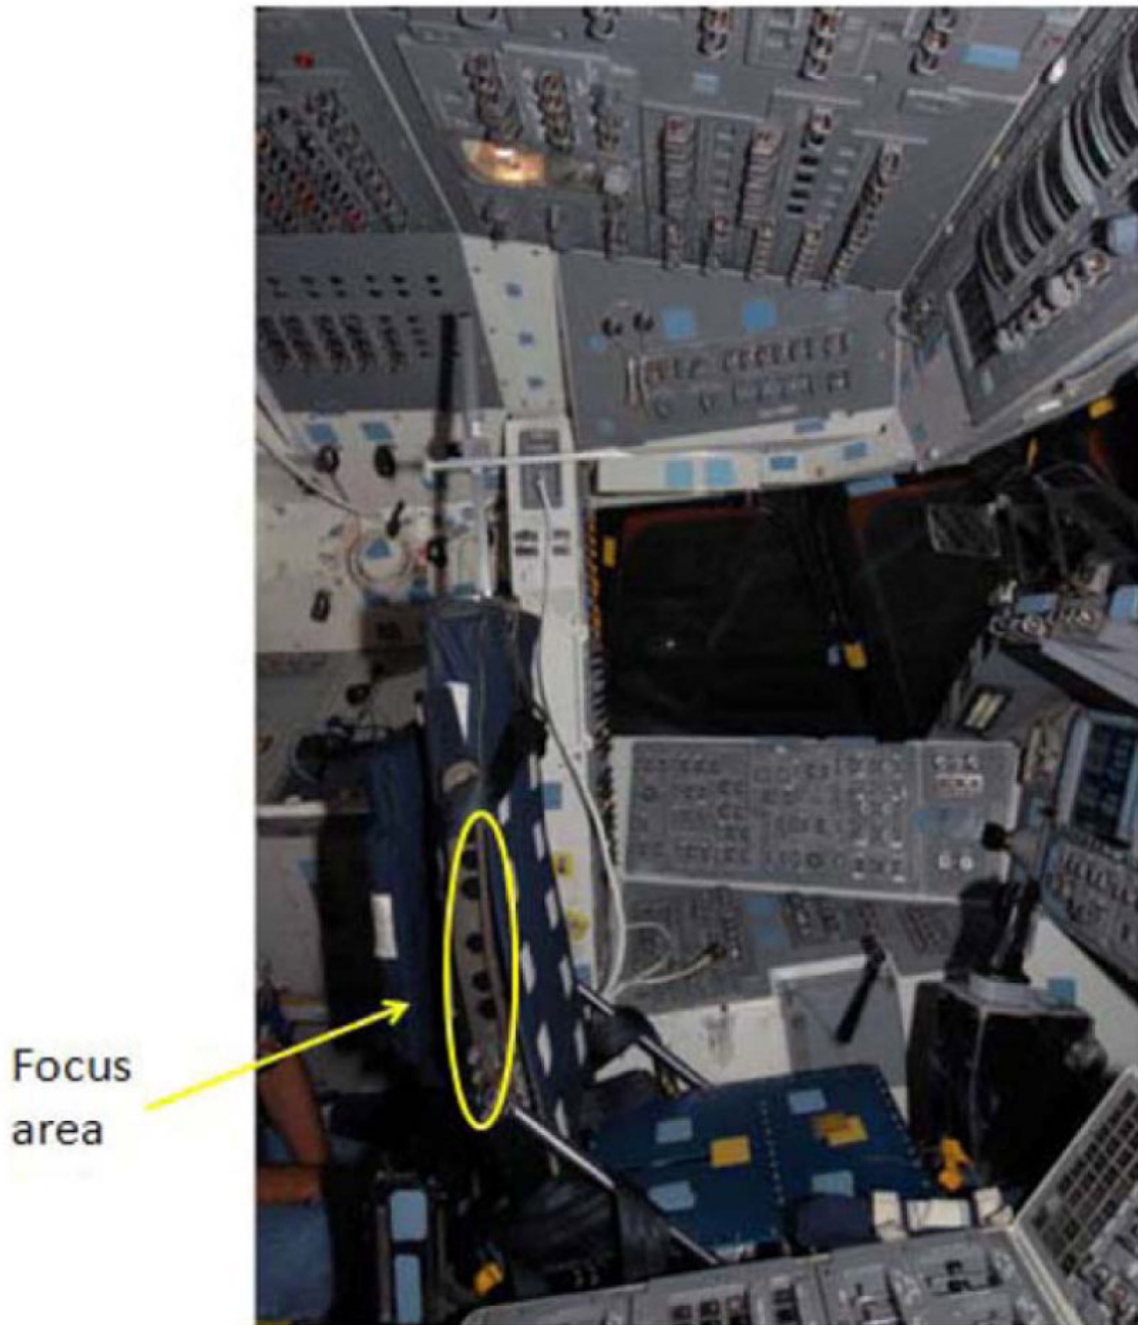

Figure 7. Correct D2Xs Camera Image Capture Area.
- 4.6 Autofocus on CDR seat (specifically on the side of the seat with the circle as seen in Figure 7).
- 4.8 Take a test photograph. Entire profile of the CDR seat should appear in the picture. Refer to Figure 7 for an example.